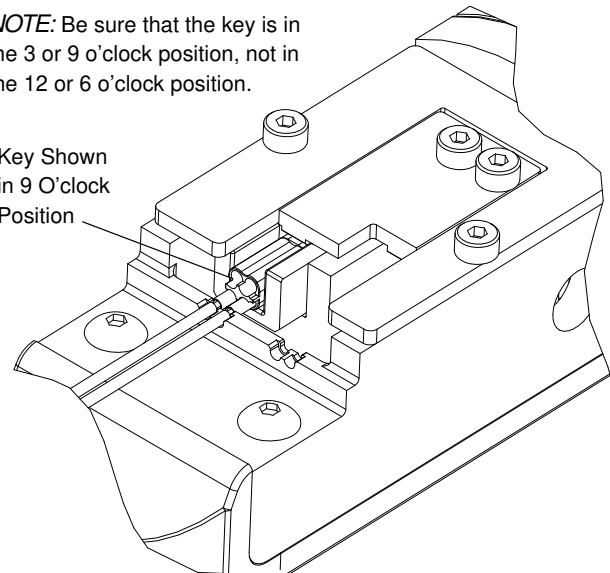

Figure 3
3. Take the pre-inserted assembly and carefully place it in the tool as shown in Figure 3. Slowly actuate the handle until the stroke is complete.